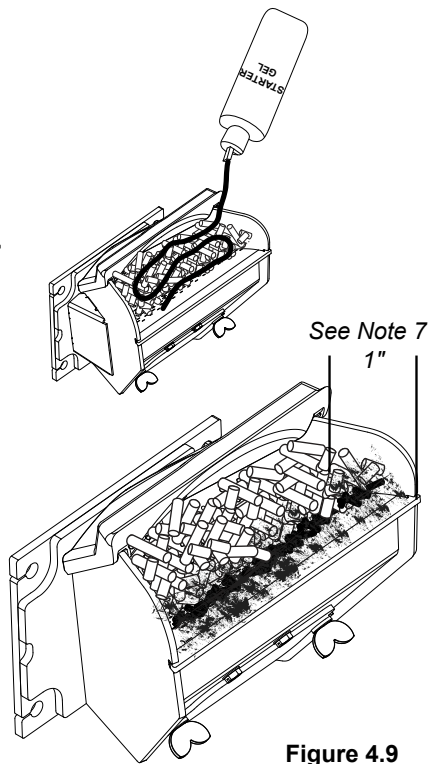

Figure 4.9
5. **Setting the feed limit # for maximum burn:** *With the unit burning in "AUTO", turn to "Stove Mode" and put the fan on "H". Set the Temperature Dial to #7. Allow the unit to burn for about 30 minutes and check ash on front of burn pot. Figure 4.9. If the ash line is larger than 1", turn the feed limit from #4 to #5. Allow another 30 minutes of burn time and check again. If, at #6 setting, a 1" or less ash bed is not obtainable, it is not a problem. The 1" ash bed is only at maximum burn rate and during normal operation, the ash bed will be larger.*